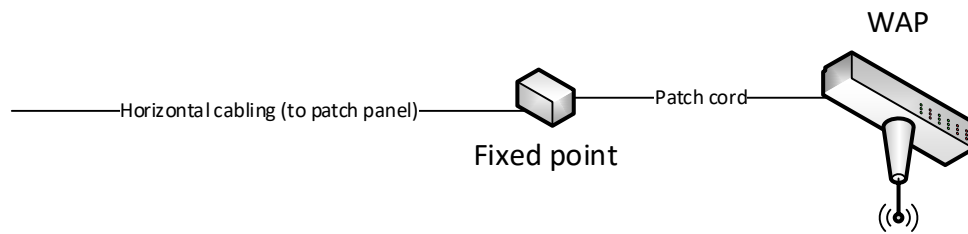

Figure 3: WAP installation
- [RQ102] The Contractor shall securely install the Power-over-Internet (PoE) wireless access points in the building technical ceilings, using fixed points as described in Figure 3.